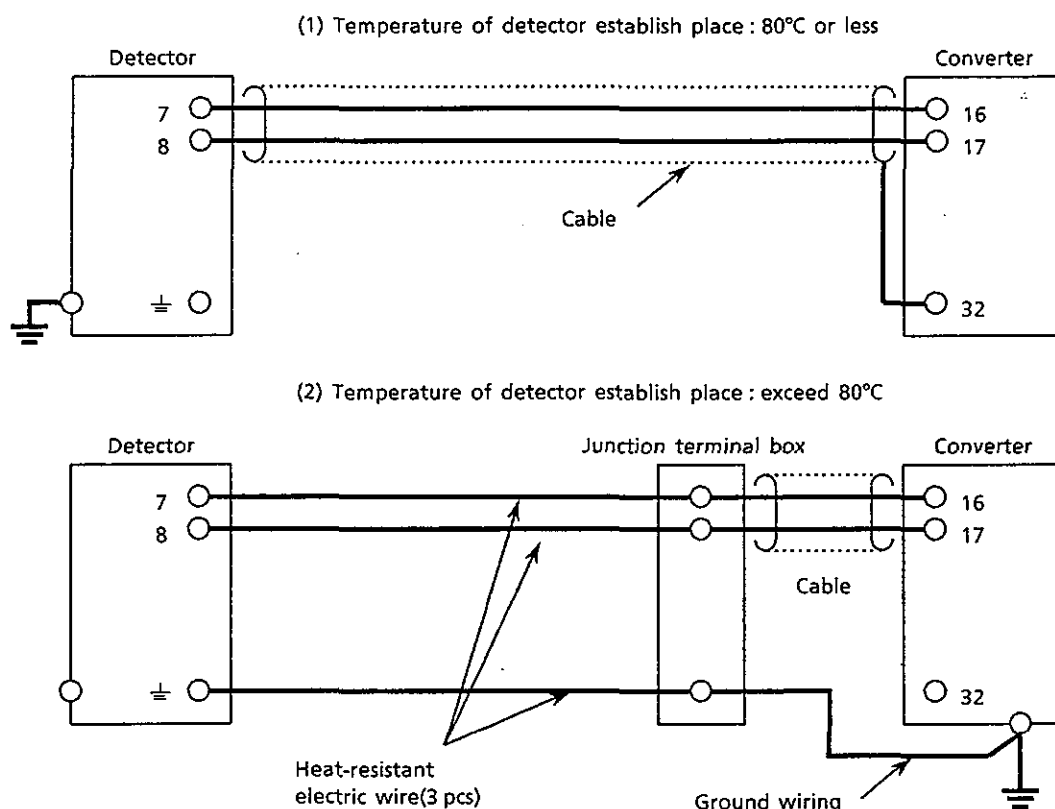

Figure 5.5 Wiring for Detector Heater Power
- (4) Don't connect the cable shield to the ground terminal in the detector. If a "600 V silicon rubber insulated glass braided wire" is used for wiring, connect the ground wire to the ground terminals in the devices as shown in Figure 5.5.
- (1) Keep ground resistance less than  $100 \Omega$  (JIS Grade 3 grounding).
- (2) When the ambient temperature at your wiring installation site is 80 to 150°C for the detector, use wiring material with satisfactory heat resistance.
- (3) When silicon rubber insulated glass braided wire is used because of a higher ambient temperature, connect the wiring from the ground terminal in the detector to the ground terminal in the converter case as shown in Figure 5.5.